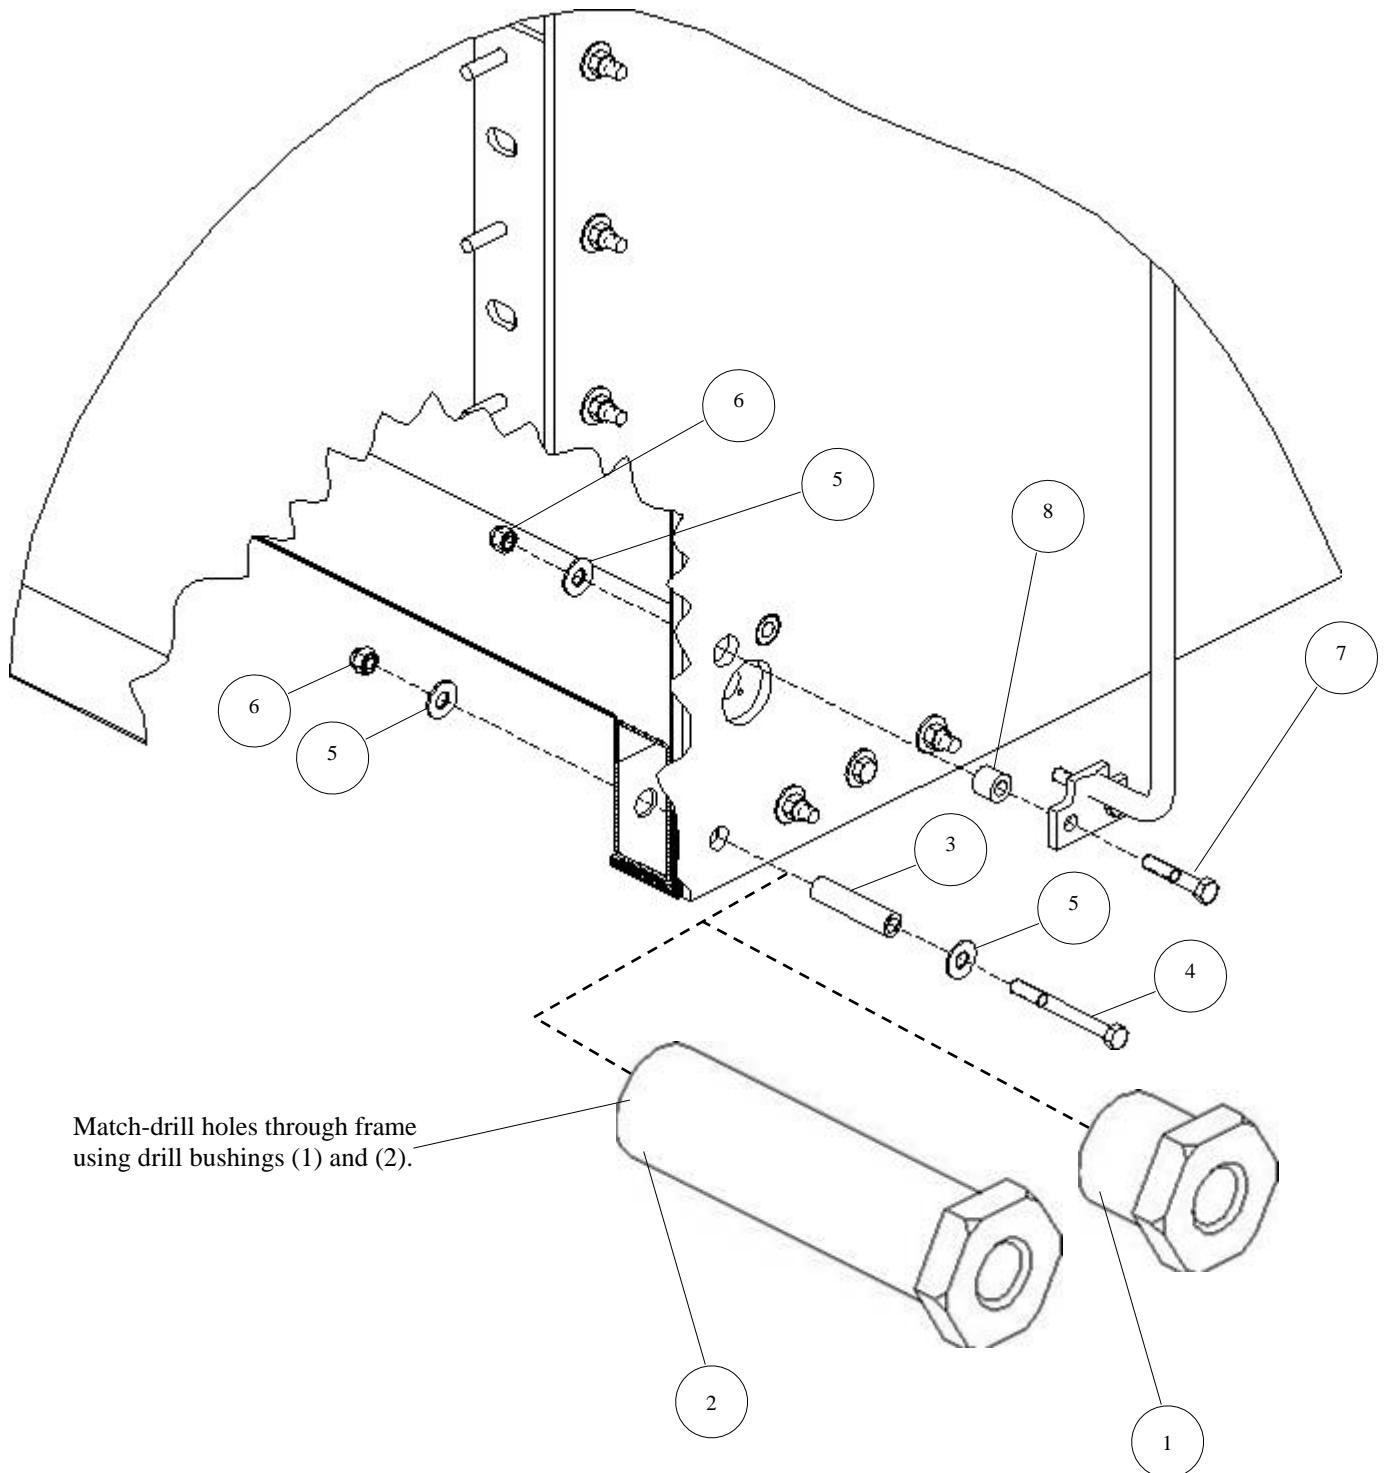

Figure 3-17. Match-Drill of Cab Frame Rail.
6. Match-drill cab frame rail and install sleeve bushings and grab handle as follows (see Figure 3-17):
The following procedure is used for each of the holes shown in Figure 3-17.
- a. Re-install grab handle and seat belt assembly (retained from Teardown, Chapter 2) using one bolt (5), one bolt (6), two flat washers (7), two flat washers (3), two spacers (8), upper seat-belt assembly (retained from Teardown, Chapter 2), and two locknuts (9). Torque locknut on bolt (5) to 7 lb-ft. Torque locknut on bolt (6) to 55 lb-ft.
- b. Re-install lower seat-belt retractor (retained from Teardown, Chapter 2), using one bolt (6), one spacer (8), one flat washers (7), an original washer, and one locknut (9). Torque locknut to 55 lb-ft.
- c. Match-drill cab frame rail as described previously (see Figure 3-17)